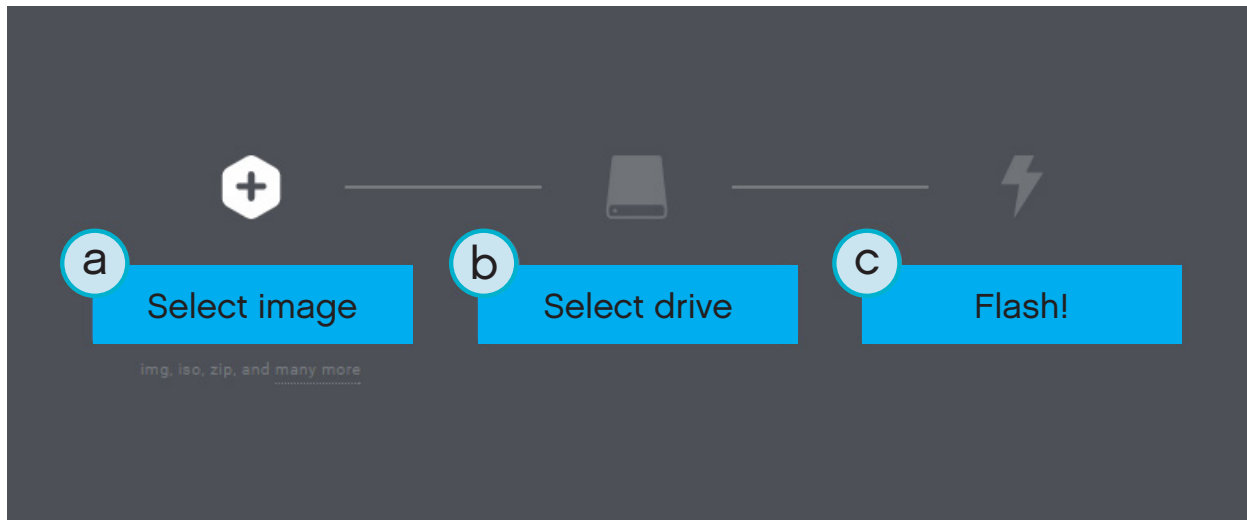

Figure 1.3: Using Etcher to flash the EV3 MicroPython micro SD card image.
4. Launch the flashing tool and follow the steps shown on your screen to install the file you have just downloaded. If you use Etcher, you can follow the instructions below, as shown in Figure 1.3.